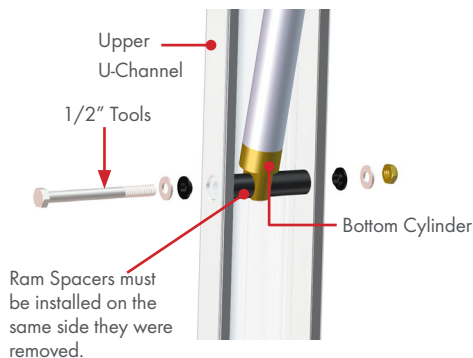

Figure 1
**STEP 1** Remove the Hardware that attaches the **Upper Cylinder Fitting** to the U-Channel using a 1/2" Socket and wrench. **FIG 1**